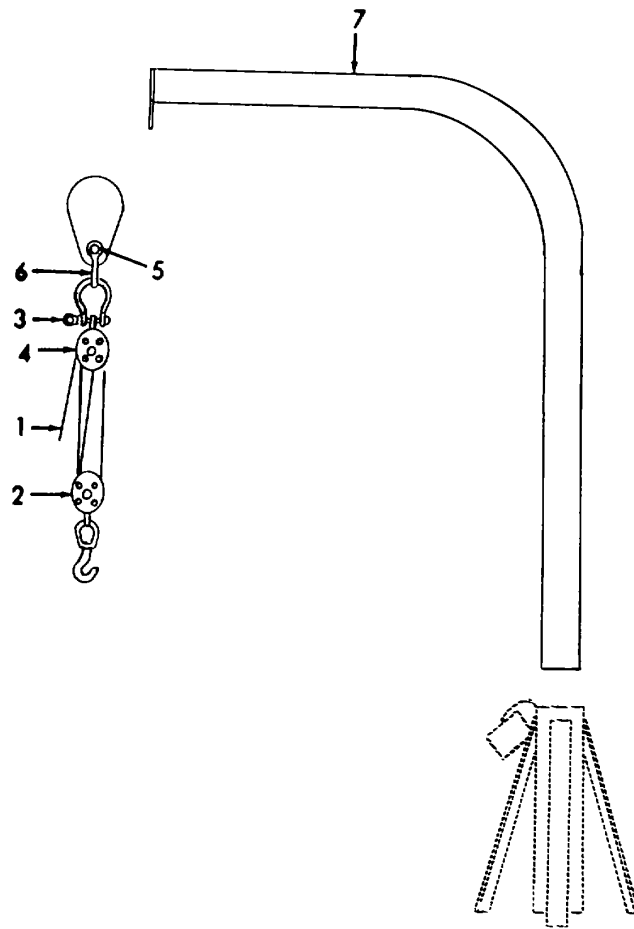

Figure 4-3. Anchor Davit, Removal/Installation.
- a. Removal. (Refer to figure 4-3).
- (1) Remove rope (1) and block and hook (2).
- (2) Remove shackle bolt (3) and remove block (4).
- (3) Remove shackle bolt (5), shackle (6), and davit (7).